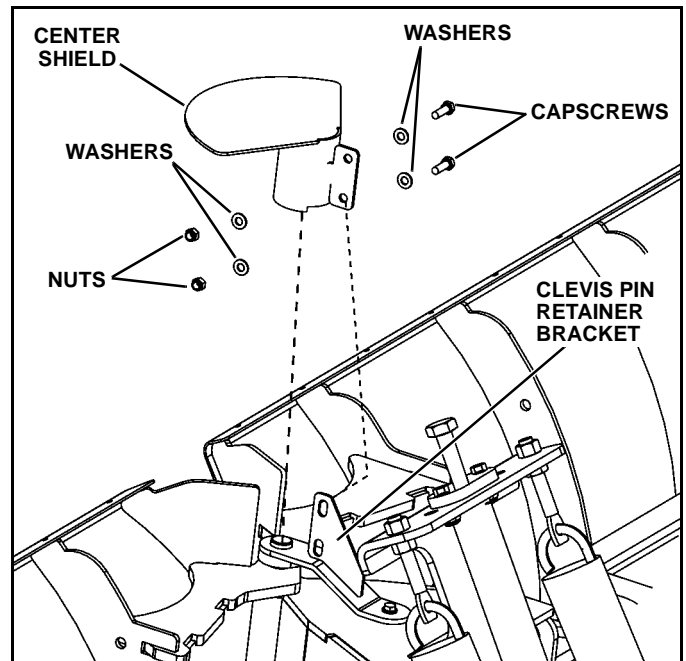

Figure 1-8
11. Install the center shield on the clevis pin retainer bracket, and secure with two 5/16-18 x 1" hex head cap screws (p/n 98009149), four 5/16" flat washers (p/n 98009024) and two 5/16" lock nuts (p/n 98009150). (See Figure 1-8).